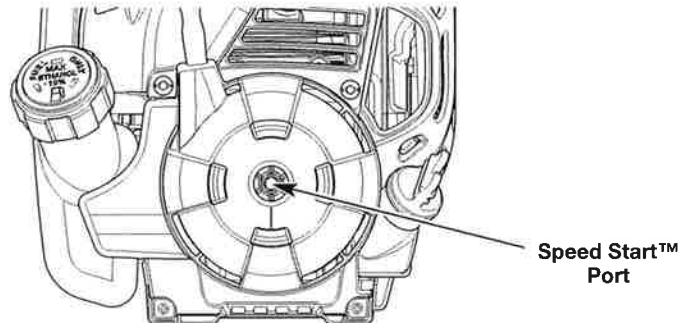

Fig. 12
6. Insert the Speed Start™ accessory into the Speed Start™ port (Fig. 12). Refer to the *Operation* section of the Speed Start™ accessory operator's manual.